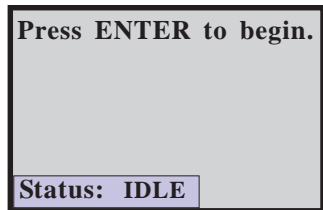

Figure 3. “IDLE” status.
2. Once the FT5000 completes its startup, the status display in the lower left corner will change to “IDLE” (Figure 3).